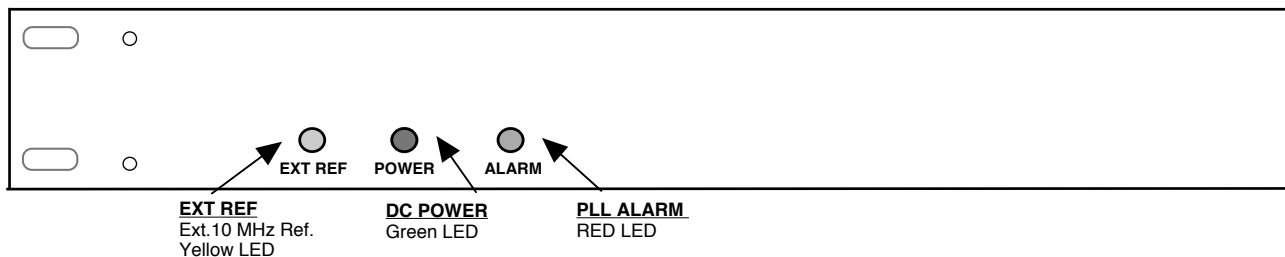

FIGURE 2.2 2083-0312-30036 Front Panel Indicators
Figure 2.2 shows the front panel indicators.
4. Be sure DS6 (green, DC Power) is on and DS2 (red, Alarm) is off (Figure 2.2).